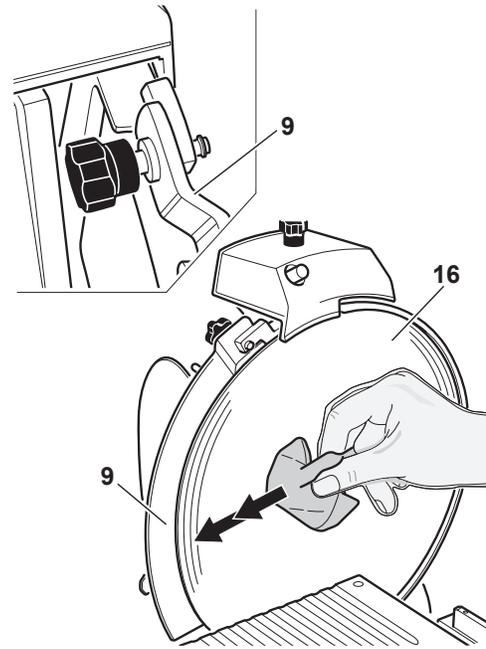

Figure 16-3
3. Place all removable parts in a three compartment sink with warm water and a mild detergent solution; soak, clean, and thoroughly scrub all surfaces using a solution of mild detergent and warm water. Removable parts include: product holder, pusher, slice receiving tray and knife sharpener. Use a soft spongy cloth and if necessary, a nylon brush for the spiked areas of the product holder (4) and pusher (3).
ALWAYS clean the knife (16) with the knife guard (9) fitted behind it in the safety position (Figure 16-3).
5. Carefully wash and rinse the top and bottom of knife (16) by wiping from the center of knife outward.